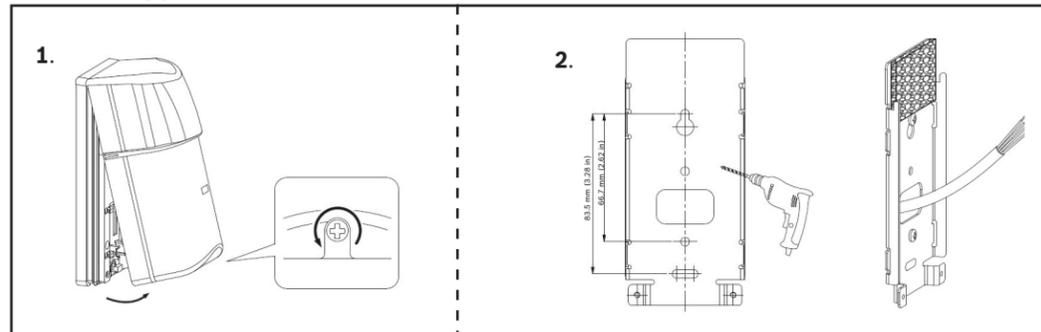

Figure 2.1: Fastening the mounting plate and removing the cover.
1. Remove the cover and the mounting plate. Refer to Figure 2.1.